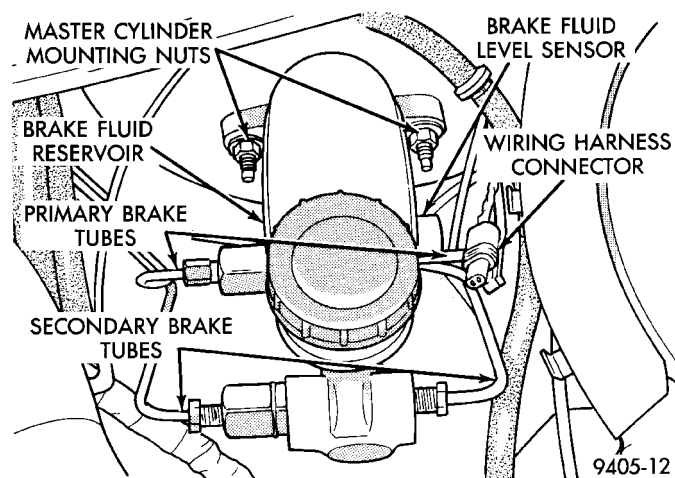
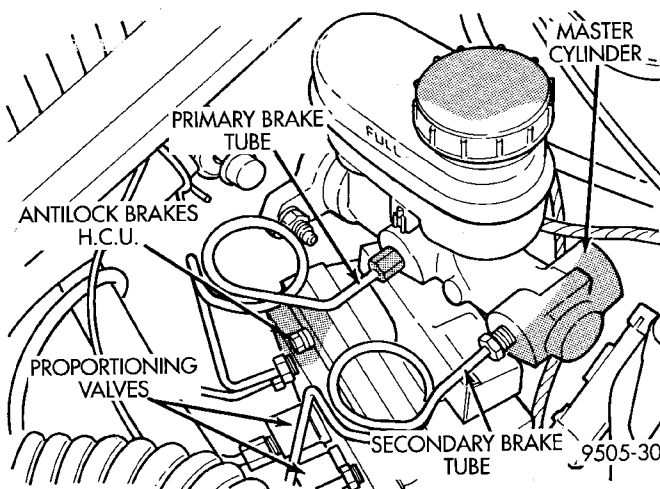

Fig. 102 Primary And Secondary Brake Tubes W/O ABS Brakes
Fig. 103 Primary And Secondary Brake Tubes With ABS Brakes
(3) Disconnect the primary and secondary brake tubes from the master cylinder (Fig. 102) and (Fig. 103). Install plugs at all open brake tube outlets on master cylinder assembly.
(5) Connect brake tubes to master cylinder primary and secondary ports (Fig. 102) and (Fig. 103). Torque all tube nuts to 17 N·m (145 in. lbs.) torque.